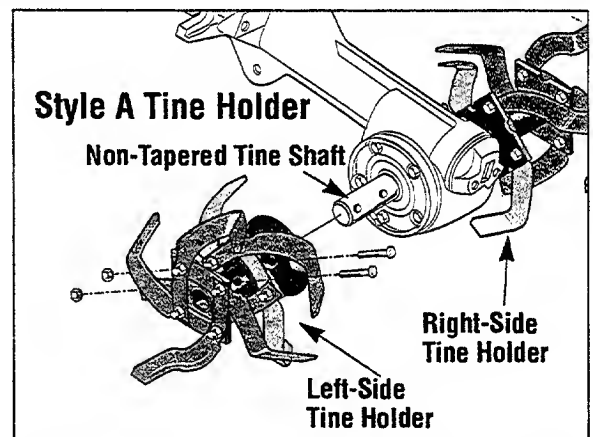

Figure 5-33A: Style “A” Tine Holders— Left and right-side tine holders are secured to the tine shaft with two bolts and two nuts.
The 16 Bolo Tines are mounted eight per side on left-side and right-side tine holders – on either Style A or Style B holders (refer to Figures 5-33A and 5-33B to see which style tine holder you have). Style “A” tine holders are secured to the tine shaft with two bolts and two nuts. Style “B” tine holders are secured with a single end bolt to the left and right sides of the tine shaft. Here’s how to replace the tines and holders as assemblies.
3. With Style A holders, remove the two bolts and nuts securing each holder (Fig. 5-33A). With Style B holders, remove the single bolt (along with the washers) from